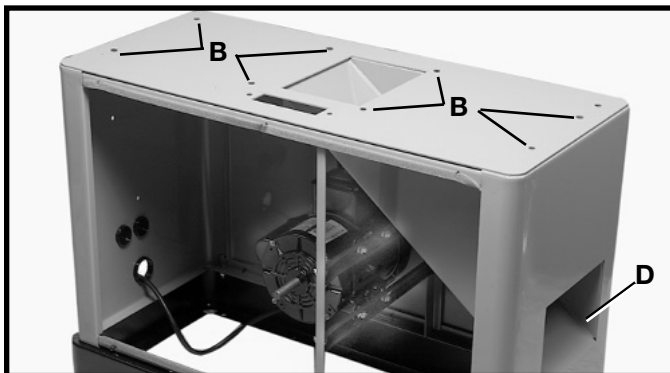
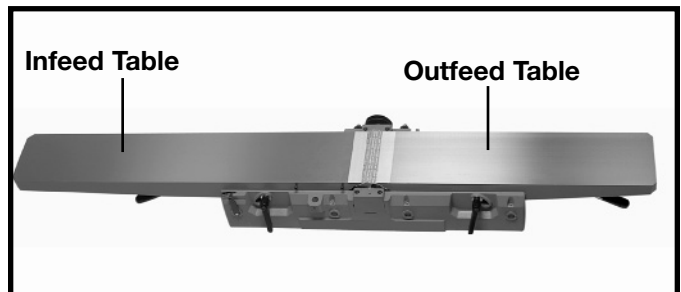

Fig. 5A
Fig. 5
6. Line up the eight holes (B) Fig. 5A, on the top of the stand with the eight threaded holes on the bottom of the jointer base (shown in Fig. 5) and fasten the jointer to the stand using the eight M8x1.25x25mm socket head cap screws and M8.1 lockwashers supplied.
NOTE: THE OUTFEED END OF THE JOINTER FIG. 5 MUST BE POINTING TOWARD THE END OF THE STAND WITH DUST CHUTE (D) FIG. 5A.